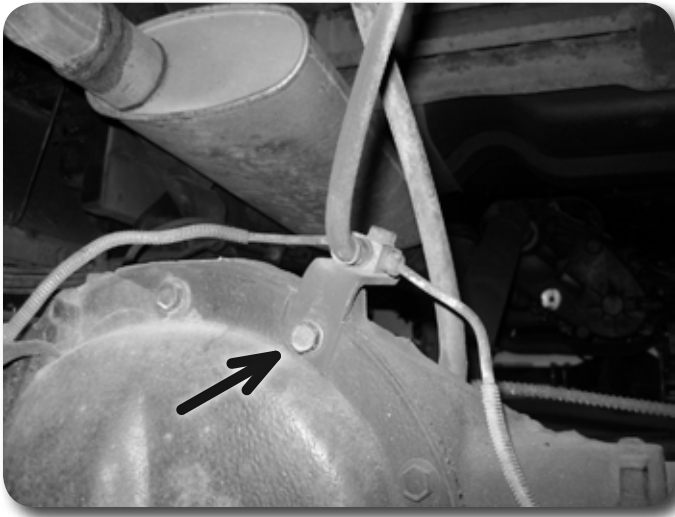

Figure 8
3. Disconnect the brake line bracket from the top of the differential. **Figure 8** Save differential cover bolt.